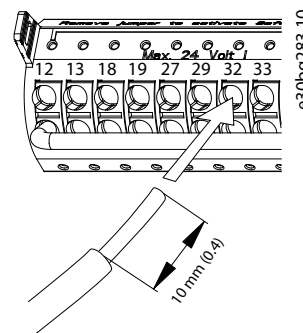

Figure 5.20 Connecting Solid Control Wires
- For a solid wire, push the bare wire into the contact. See *Figure 5.20*.